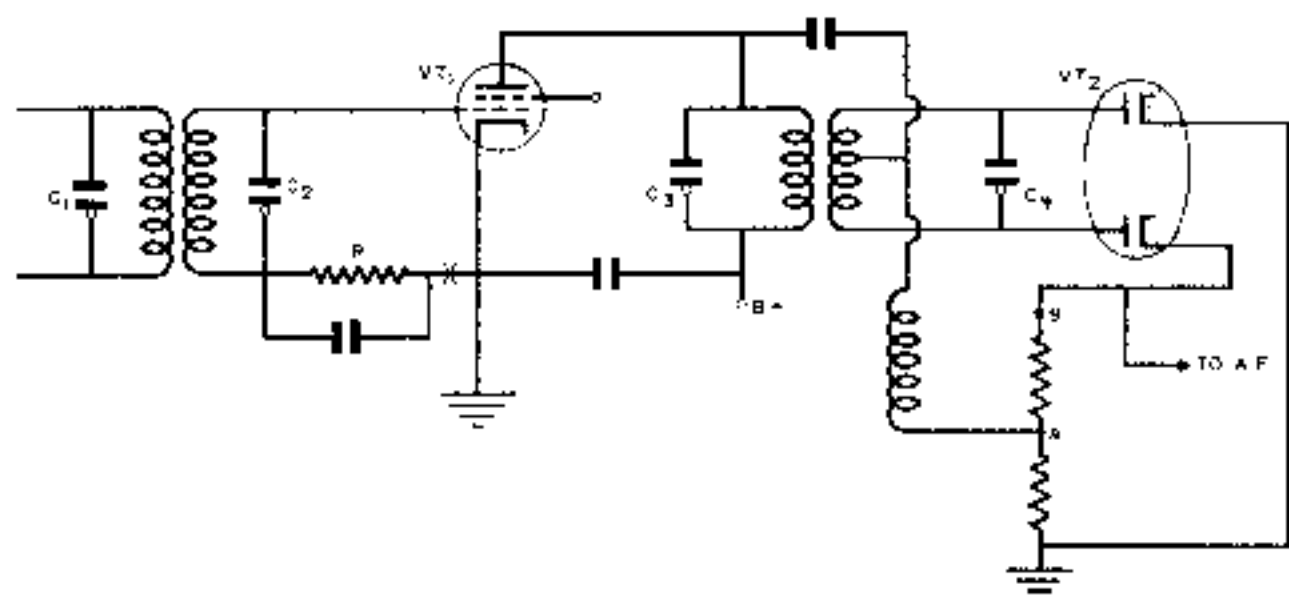

FIGURE 25
A typical limiter and discriminator stage in an FM receiver is shown in Fig. 25. The output indicator should be a microammeter having a range of about 120 microamperes. It is inserted in the grid return circuit at the point marked "X" and it should be by-passed by a .05 mfd. condenser.
The signal generator is tuned to the i.f. resting frequency of the set; this is generally 10.7 megacycles. Use an unmodulated r.f. signal. Adjust the i.f. trimmers for maximum output meter reading. Reduce the signal generator output if the grid current exceeds the range of your output indicator. When you align the limiter input circuit be sure that at least 50 microamperes are flowing before making final adjustment of trimmers corresponding to C₁ and C₂ of Fig. 25.
You are now ready to adjust the output circuit of the limiter and the input circuit of the discriminator. Leave the signal generator connections and its frequency setting just as they were for the limiter and the i.f. adjustments. You will need either a vacuum tube voltmeter or a high resistance multimeter as an output meter. (1) Connect your meter between point A and ground in Fig. 25, with the negative probe at point A. (2) Then adjust condenser C₃ for a maximum meter reading. (3) Remove the meter probe from point A and connect it to point B, so the meter is between B and ground. (If the meter should read off-scale to the left, reverse the meter polarity.) Now, adjust condenser C₄ for minimum reading on the output meter. Theoretically, the voltage between B and ground should decrease to zero. If it does not, the adjustment for minimum reading is acceptable.